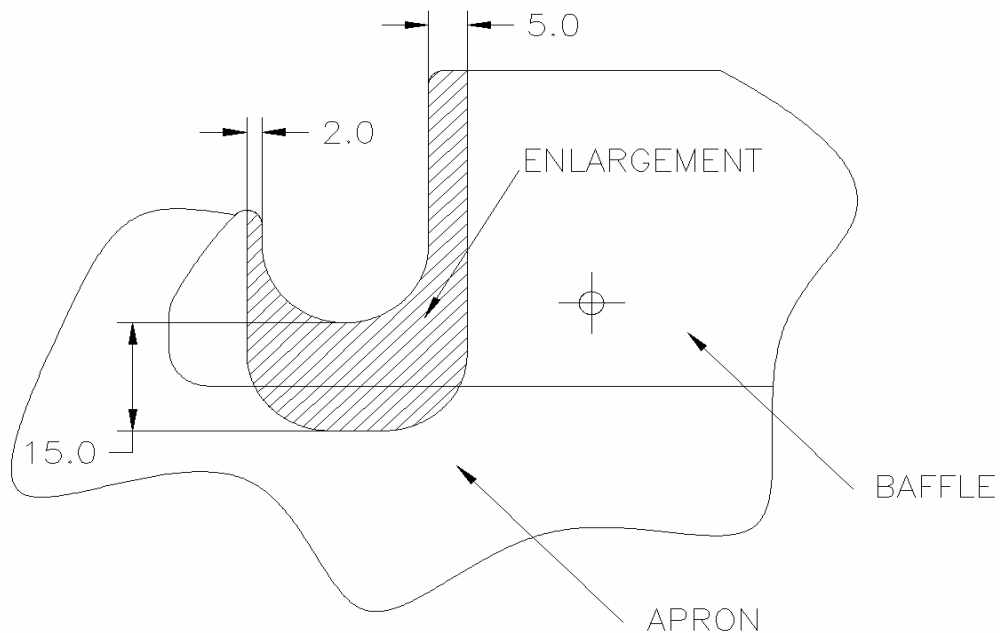

Figure 4
- Modify the existing opening in the forward baffle assembly as referenced in Figure 4. All dimensions in mm's. See Diamond Service Bulletin DAC1-73-05